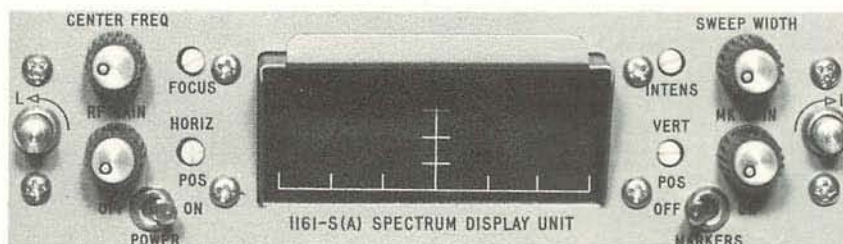

Figure 3-1. Model 1161-S(A) Spectrum Display Unit, Front Panel View
3-4. The controls and indicators, their reference designations, and their functions are listed in table 3-1. A front panel view of the 1161-S(A) is shown in figure 3-1.